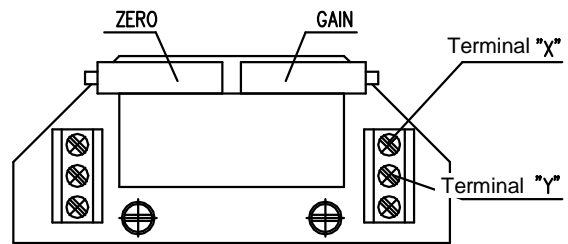

Fig. 8
### 3.4.2 EPV – 3-wire version (Fig. 8,8a)
- Adjust the resistive transmitter according to the previous chapter. The resistance is to be metered on the terminals X-Y (Fig. 8,8a). The used transmitter resistance is 2000  $\Omega$  or 100  $\Omega$ .